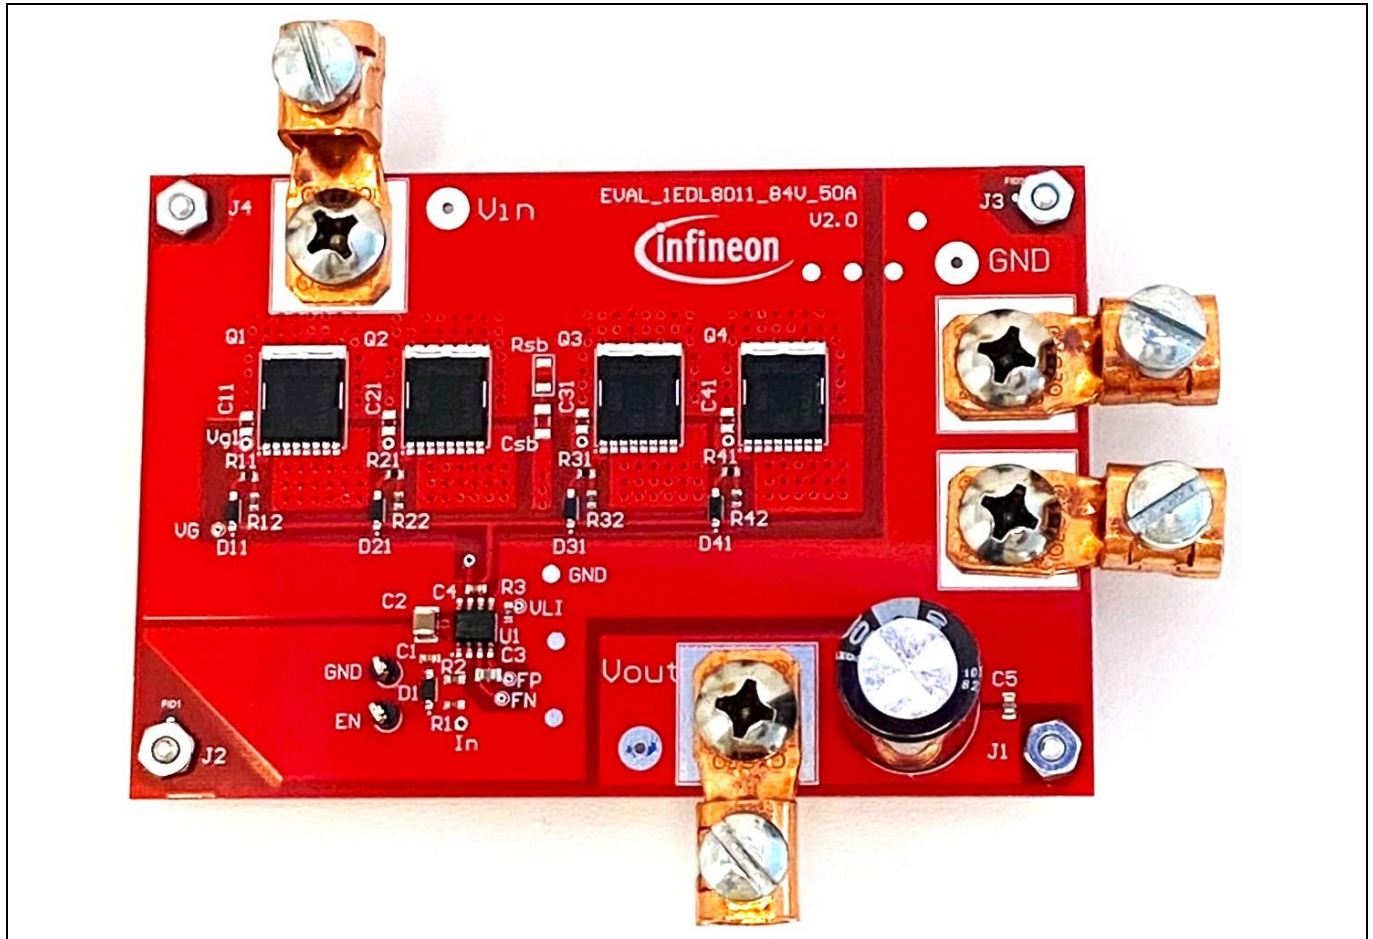
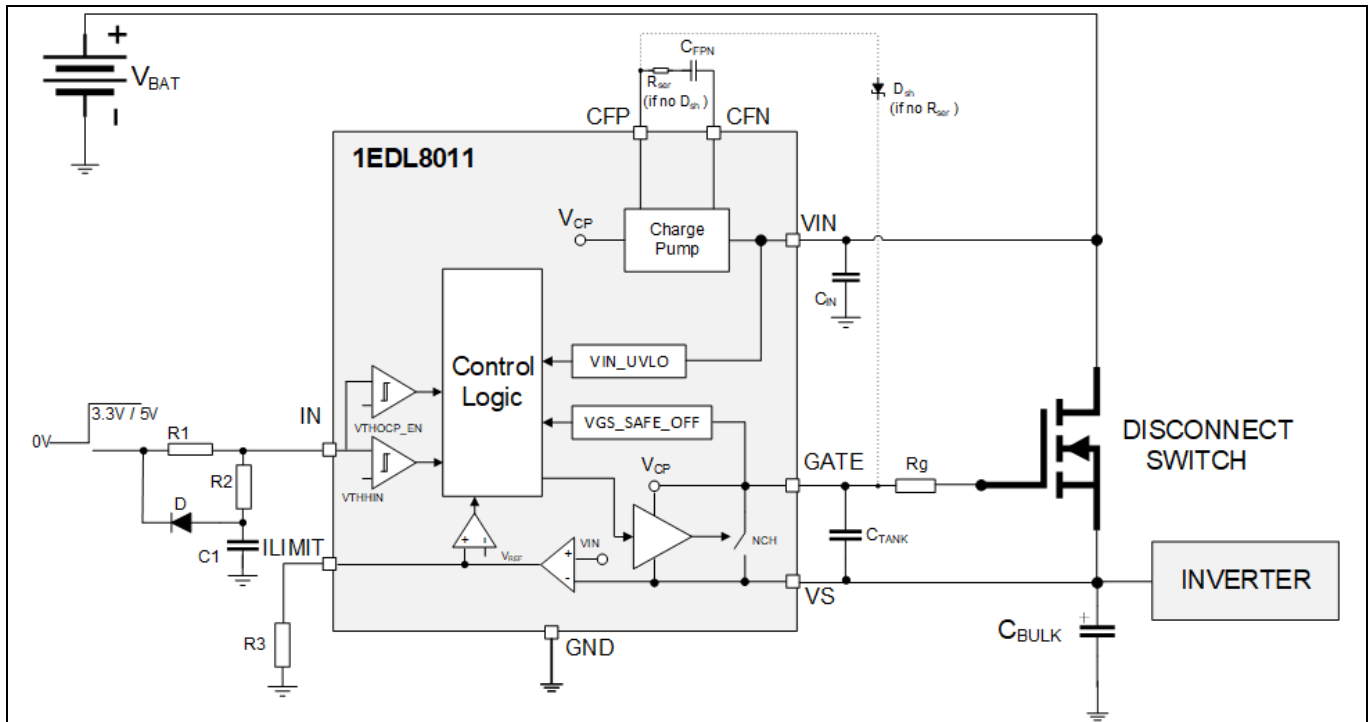

Figure 1 EVAL_1EDL8011 Drive Evaluation Board
Figure 2 Block diagram
This section describes the functions of 1EDL8011 using the EVAL_1EDL8011 Drive Evaluation Board as shown in Figure 1, designed for a power supply from 10 V to 84 V. This board utilizes OptiMOS™ 5 IPT039N15N5 150 V 3.9 mΩ power MOSFETs in TO-Leadless packages (TOLL, 10 mm x 12 mm). Four MOSFETs are placed in parallel to get 50 A of load current. This board can be used to evaluate the 1EDL8011 drive capabilities with different functions of the current limit and various timings, soft startup, and undervoltage lockout. Figure 2 shows the system block diagram of the EVAL_1EDL8011 board.
- Another critical parameter during the startup is the blanking time. It is also determined by the external components (R_1 , R_2 , and C_1) as shown in Figure 2. During the blanking time, the OCP is not triggered. The blanking time is the sum of the blanking time 1 and blanking time 2.